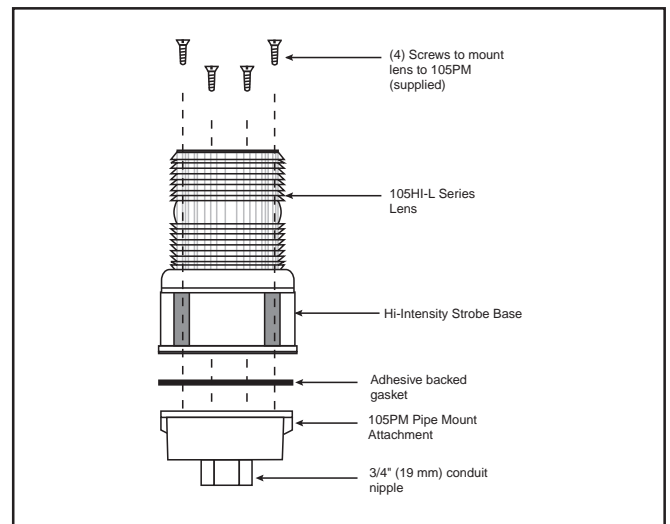

Figure 3. Securing the 105DHIST Series Beacon to the 105PM Pipe Mount Attachment
- c. **Cat. No. 105PM:** Install 3/4" (19 mm) conduit. Screw the pipe mount attachment onto the 3/4" (19 mm) conduit. Attach the adhesive backed gasket to the top of the 105PM pipe mount attachment (Figure 3), being careful to line up the holes in the gasket with the mounting holes in the outlet box.
5. Secure the high intensity strobe base to the appropriate mounting attachment using four screws (supplied) as shown in Figure 3.